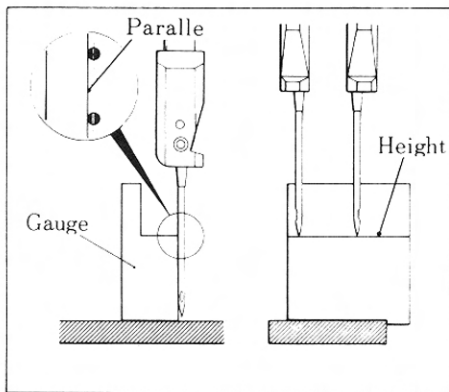
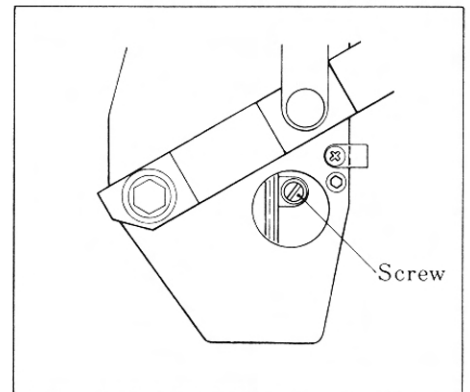

Figure 1
Figure 2
1. Needle Head to Throat Plate Alignment (Figures 1 and 2)
The throat plate is self centering on the machine bed. The needle head screws into the needle bar. Using the needle bar height and alignment gauge, check for parallel alignment of the needles and for proper needle bar height (see Figure 1). Corrective adjustments are made by removing the plug in the access hole in the side of the machine head, loosening the clamp screw and repositioning the needle bar (see Figure 2).